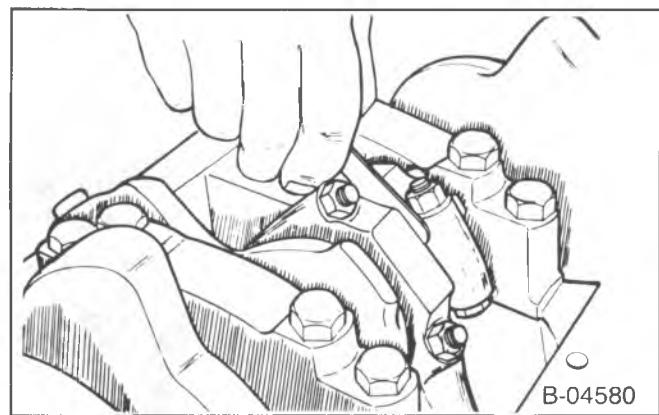

Figure 37—Checking Connecting Rod Side Clearance
Measure (Figure 37)
- Connecting rod side clearance. Use a feeler gage between the connecting rod and crankshaft (figure 37). The correct clearance is 0.17-0.63 mm.